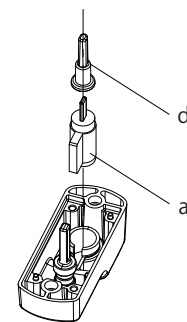

Fig. 3
3. Install the cylinder (a) and then the plug component (d) into the switching base, in that order. (Fig. 3)